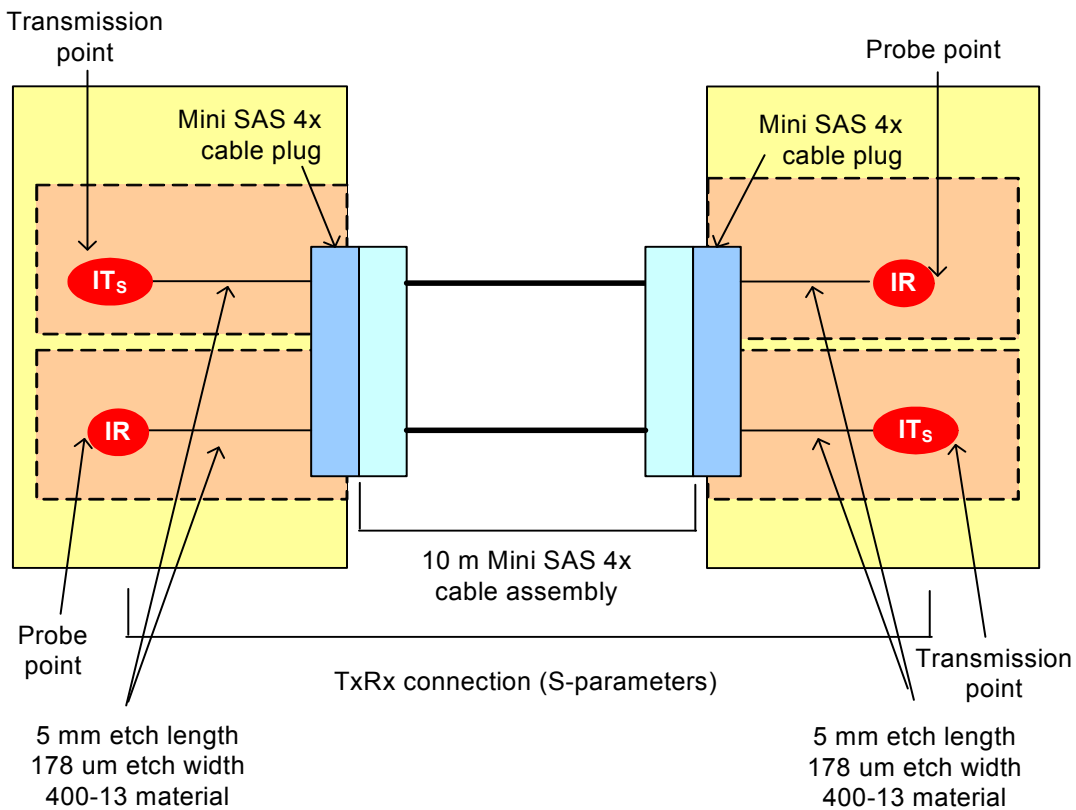

Figure A.1 — S-parameter model of the reference transmitter test load
- a) an etch length of 50 mm with an etch width of 178 μm between the IT_s (see 5.3.6.5.4) and the SAS 4x cable plug (see figure A.1) in 4000-13 material environment;
- c) an etch length of 50 mm with an etch width of 178 μm between the IR (see 5.3.7.4.3) and the SAS 4x cable plug (see figure A.1) in 4000-13 material environment.
The following lists equipment that may be used to replicate the S-parameter model shown in figure A.1: